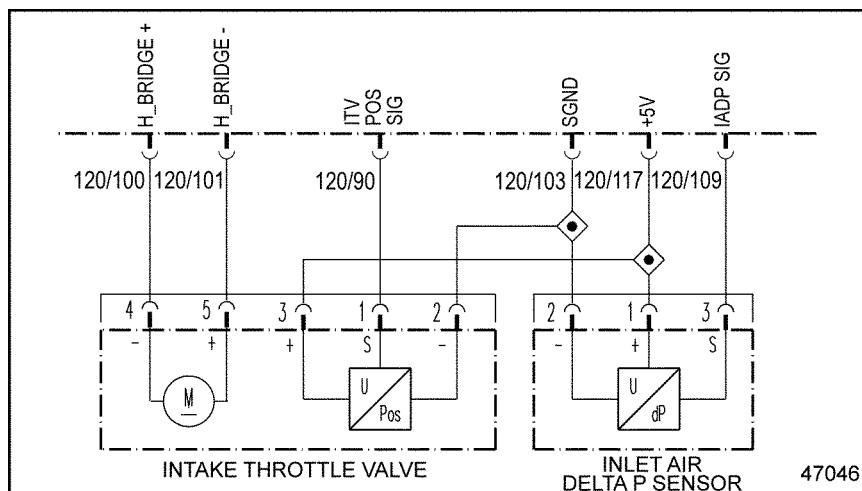

Figure 15-1 EGR Delta P Sensor
3. Measure the resistance across pins 1 and 3 of the EGR Delta P Sensor. See Figure 15-1.